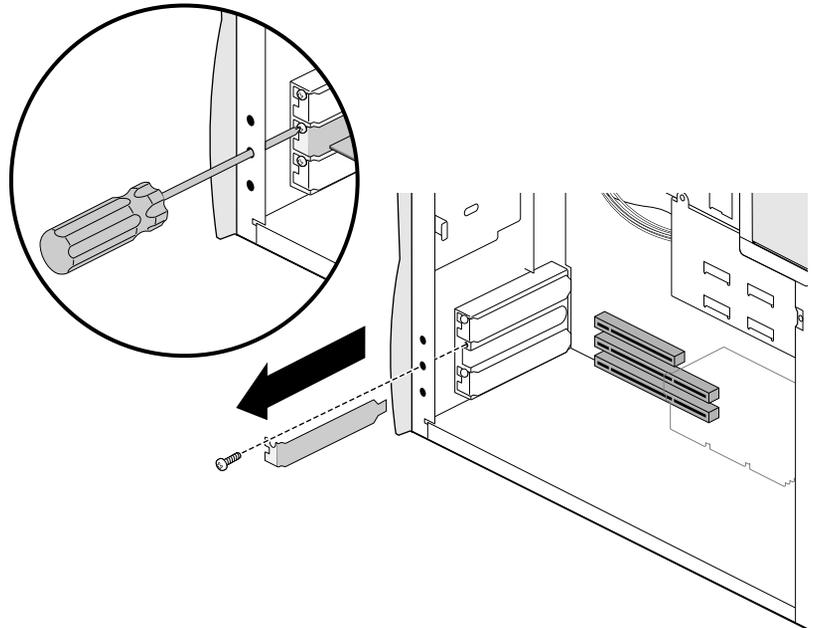

Figure 5-1 Removing the Cover Plate from a PCI Card Slot
5. If there is a blank plate covering the PCI slot opening, remove it, as shown in Figure 5-1.